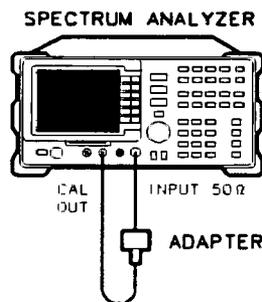

Figure 3-10. Resolution Bandwidth Switching Uncertainty Test Setup
1. Connect the CAL OUT to the spectrum analyzer input using the BNC cable and adapter, as shown in Figure 3-10. *Option 001:* Use the 75 Ω cable and omit the adapter.